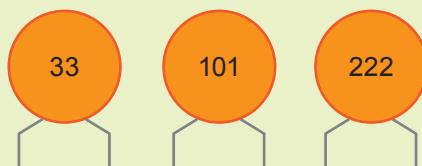

Figure 6.14
3. Determine the capacitance of each of the three capacitors shown in Figure 6.14.